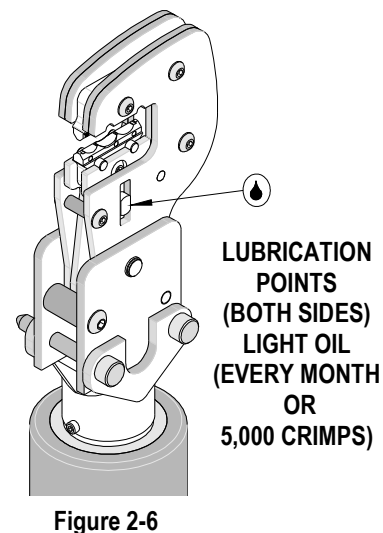

Figure 2-6
3. Make certain all pins, pivot points and bearing surfaces in the tool head are protected with a thin coat of high quality machine oil. Do not oil excessively. This tool was engineered for durability, but like any fine piece of equipment, it needs cleaning and lubrication for a maximum service life of trouble-free crimping. Use light oil, such as SAE 30 weight automotive oil, every 5,000 crimps or monthly, will significantly enhance the tool life and ensure a stable calibration. See Figure 2-6 for lubrication points.